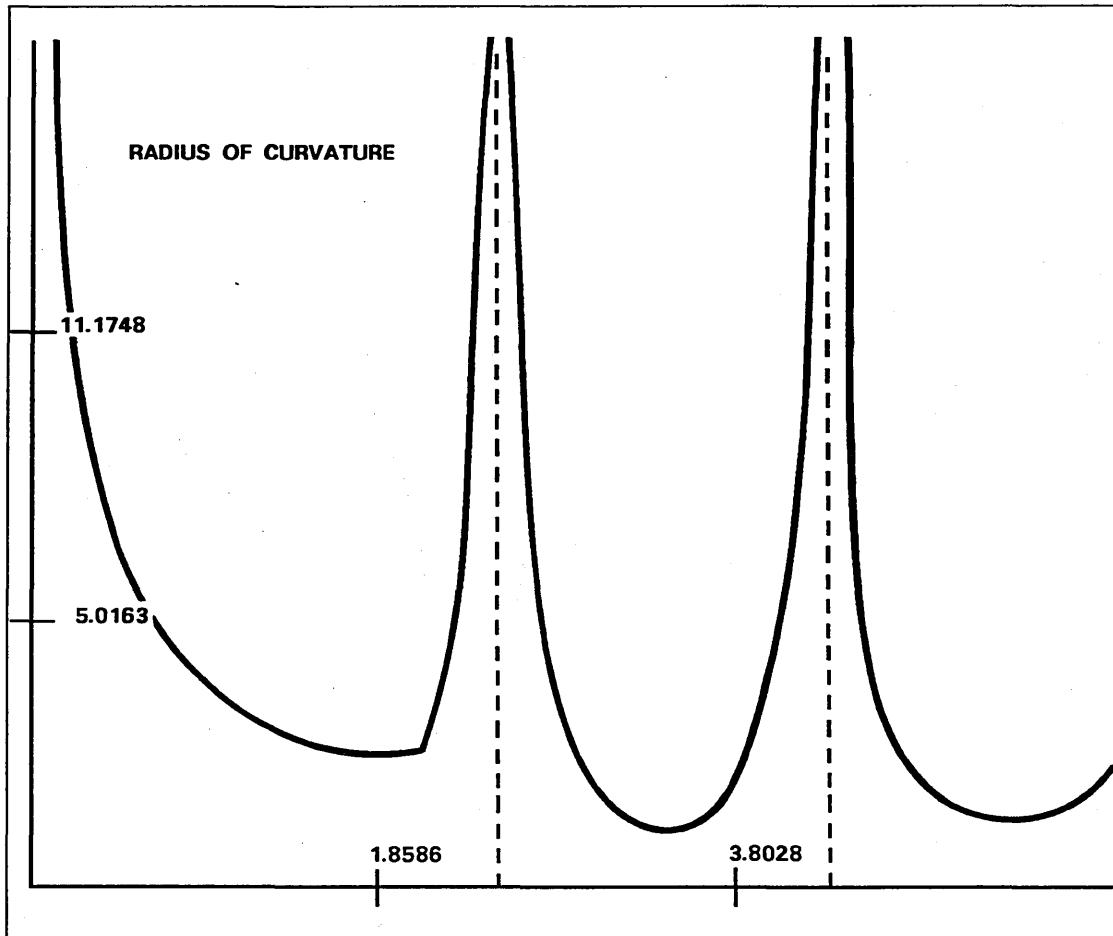

Figure 2-7. Radius of Curvature of the Spline
- 3 To display a graph of the radii of curvature along the spline. The current display is replaced by a plot of the spline's parametric range along the horizontal axis of the graph versus the spline's radius of curvature along the vertical axis of the graph. The radius of curvature at a point on the spline is the radius of the circular arc that has the same curvature as the spline at that point. The radius of curvature is always positive and is infinite at any inflection point on a spline. It is also infinite along any flat portion of a spline. The radius of curvature is the inverse of the curvature. (Refer to figure 2-7.)